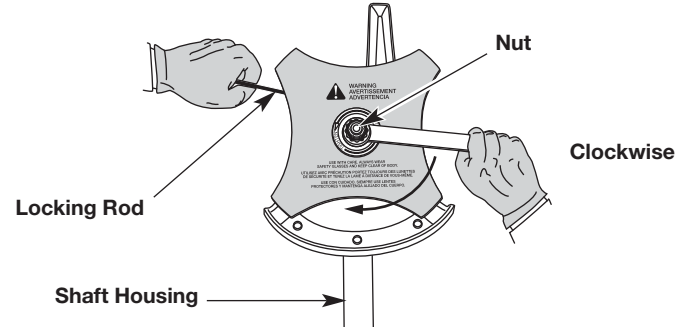

Fig. 19
2. While holding the locking rod in place, loosen the nut by turning it clockwise with a 13 mm closed-end or socket wrench (Fig. 19).